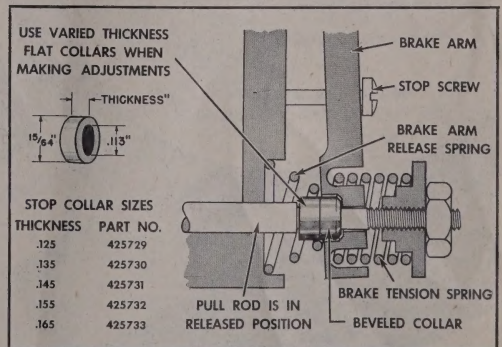

Figure 349 — Spacing Collars Provide Brake Adjustment
(e) Slip a brake pull rod plain stop collar (14) (approximately .145 inch thick) over the end of each pull rod. Slip a brake pull rod bevel collar (13) over each pull rod, with the bevel portion toward the brake arm (7). Slip a brake arm release spring (15) over each pull rod, with the large end inserted in the counterbore of the end plate. (See figure 349.)